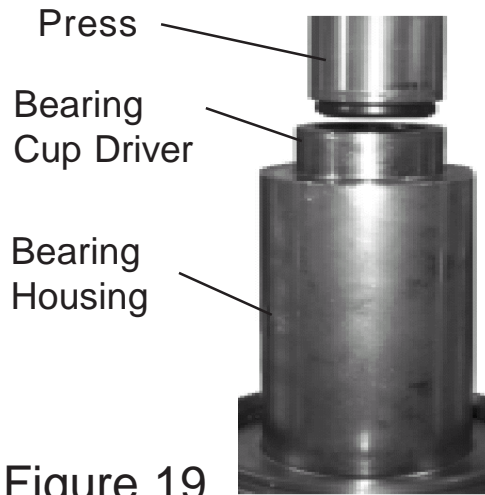

Figure 19
2. Install Bearing Cups into Bearing Housing. This will need to be done if the bearing cups were removed. Install bearing cups (1/2 of item 20) into Bearing housing using a press and tube that is close to the size of the bearing cup. Make certain the Bearing cups are completely seated. (See Figure 19)